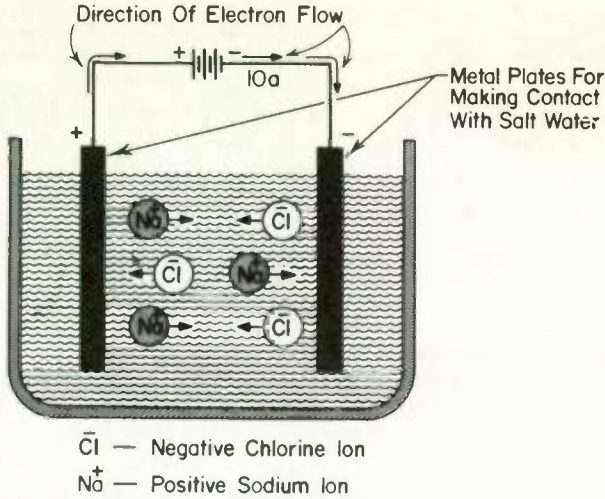

Fig. 5 Showing current conduction through a salt solution.
An electrical current may also consist of the movement of positive particles, such as positive ions. The concept of conduction through the movement of positive charges is important in studying semiconductors. An example of conduction by the movement of positive charges is current flow through a solution of salt water. Salt water is a good conductor, but it does not conduct by the movement of free electrons. Instead it conducts by the movement of positive sodium ions and negative chlorine ions, as shown in Fig. 5. Because opposite charges attract, the positive sodium ions move toward the (51) _____ plate. Also, the positive sodium ions are pushed toward the negative plate by the positive plate because (52) _____ charges repel each other. The negative chlorine ions move towards the (53) _____ plate. Ignoring small current flow due to ionization of the water itself, the moving sodium ions and the moving chlorine ions each carry one-half of the total current. The battery current in Fig. 5 is 10 amperes. Therefore the sodium ions carry (54) _____ amperes and the chlorine atoms (55) _____ amperes.
Particles that form a current by carrying charges from one point to another are called *charge carriers*. The ions of Fig. 5 are *charge carriers*. In ordinary conduction through a wire, the free electrons are (56) _____. In Fig. 5 the positive charges are carried in the (57) _____ direction to the negative charges. A current of (58) _____ amperes is carried in each direction. The two currents of opposite directions do not cancel each other because one current consists of positive charges and the other of negative charges.
(51) negative; (52) like; (53) positive; (54) 5; (55) 5; (56) charge carriers;
(57) opposite; (58) 5;
8 CURRENT DIRECTION . . . Since in Fig. 5 current flow in the salt water consists of equal charges moving in opposite direction, what is the current direction? In this course we define current direction as the direction of movement of the free electrons. When a current consists of charge carriers other than free electrons, the current direction is the direction that free electrons would move in the circuit if they were the charge carriers. For example, if in Fig. 5 conduction through the salt water were by electron flow, the direction of movement would be from negative plate to positive plate. Hence, the current direction through the salt water in Fig. 5 is from ⁽⁶⁵⁾_____ to ⁽⁶⁶⁾_____.